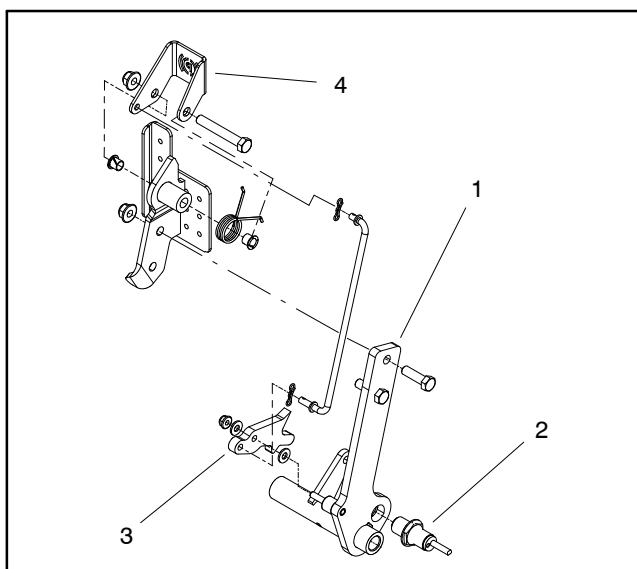

Figure 50
3. Locate parking brake sensor (Fig. 50). Make sure that parking brake is not applied.